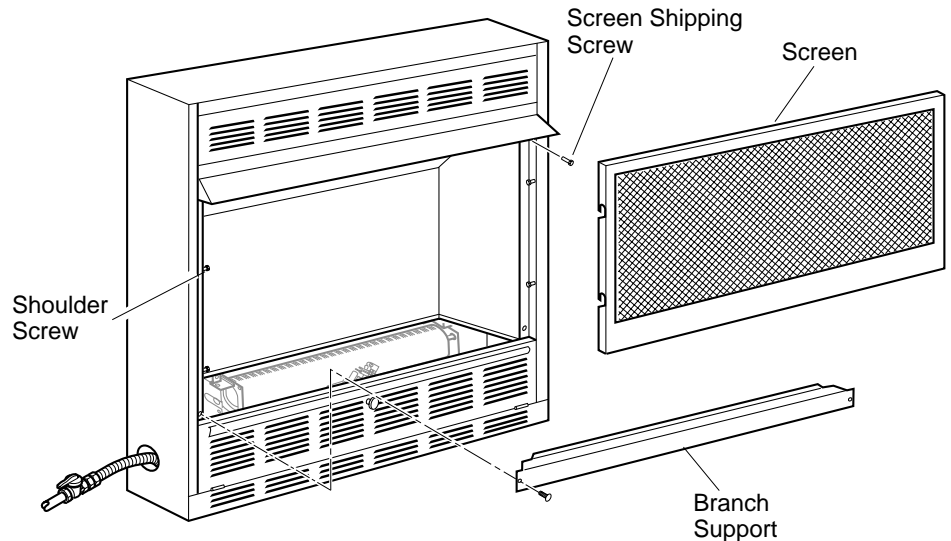

Figure 17 - Removing Branch Support From Fireplace
2. Remove screws that attach branch support to fireplace (see Figure 17). Carefully lift up branch support and remove from fireplace (see Figure 17).